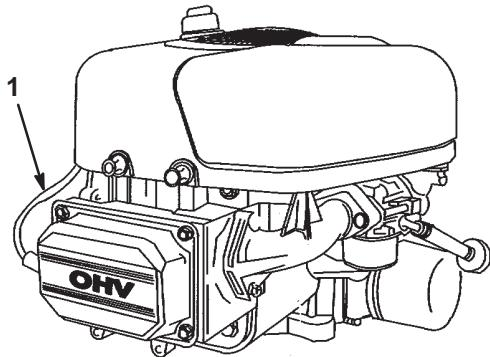

Figure 25
3. Pull the wire off of the spark plug (Fig. 25). Clean around the spark plug to prevent dirt from falling into the engine and potentially causing damage.
3. Push the wire onto the spark plug (Fig. 25).